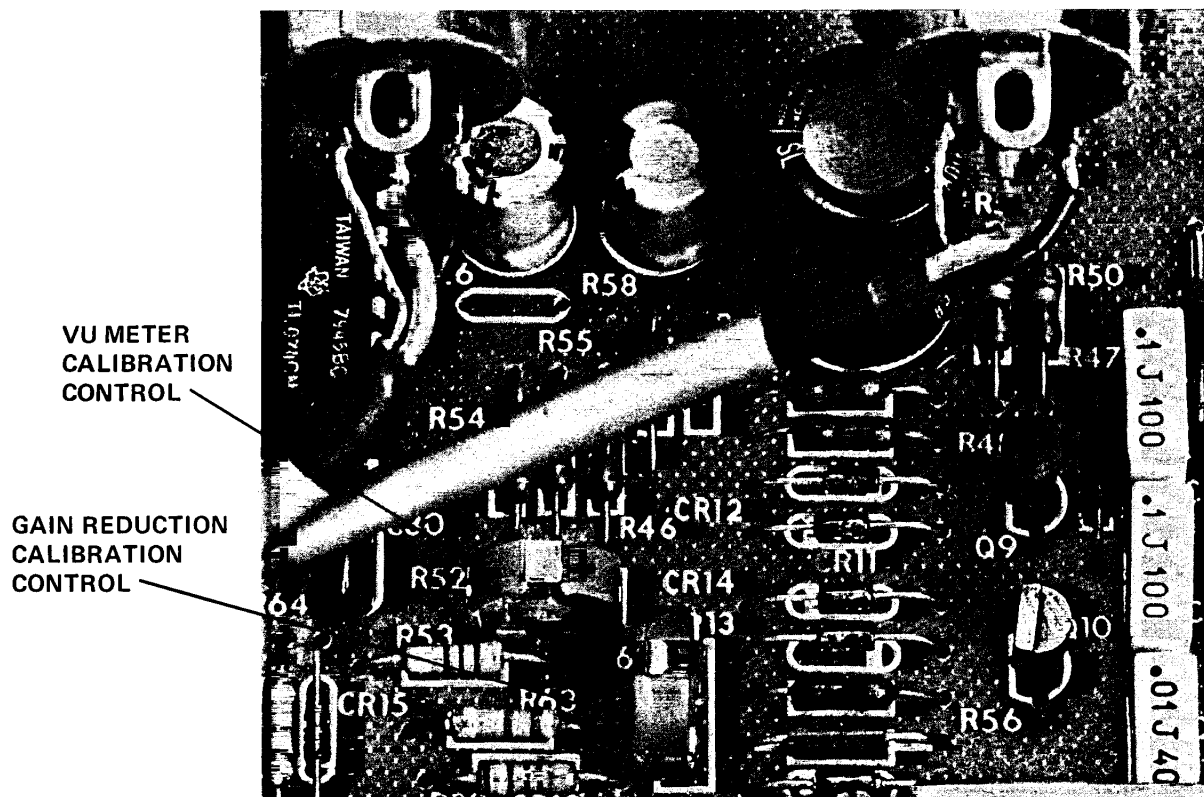

FIGURE 10
6. Adjust the meter calibration control, R52, Figure 10, for 0 VU indication, 0 dBm.
3. Adjust R62, Figure 10, for 0 VU.